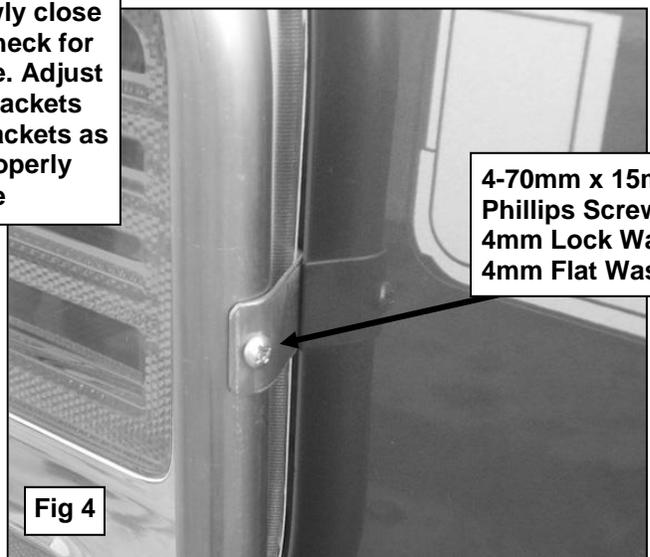

Fig 4
- 7.** Attach the Taillight Guard to the Support Bracket using the included (1) 4-.70mm x 15mm Phillips Screw, (1) 4mm Lock Washer, (1) 4mm Flat Washer **(Figure 4)**.